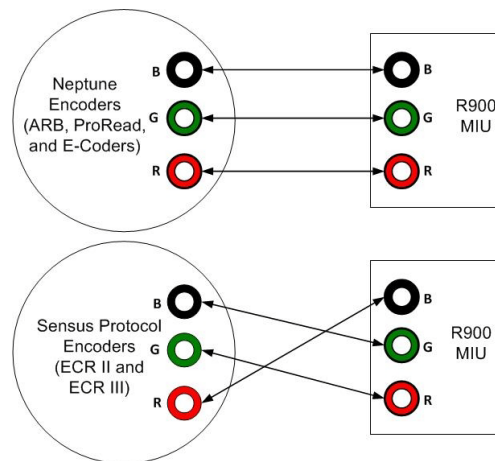

Figure 17 MIU Color Code for Wires
- 2 Pair the wires according to the color diagram in Figure 17.